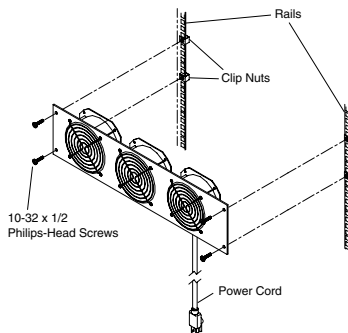

Figure 3
5. Using an assistant, attach the fan panel to the clip nuts with the included 10-32 x 1/2 Phillips-head screws (see Figure 3). Plug the power cord into a grounded 120V outlet.